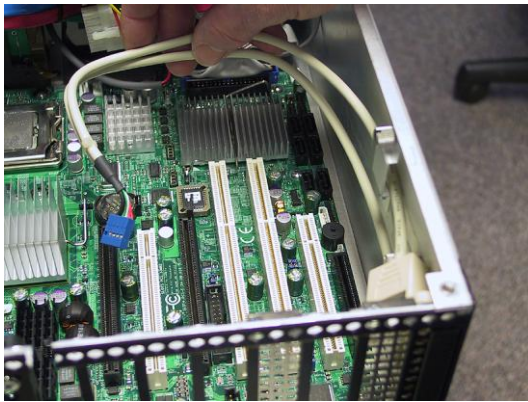

**Figure 5-123**
- 22) Remove the audio-out cable that normally connects between the motherboard to the power distribution board (disconnect this cable from the motherboard) as shown in Figure 5-123. Observe the polarity of this connection.